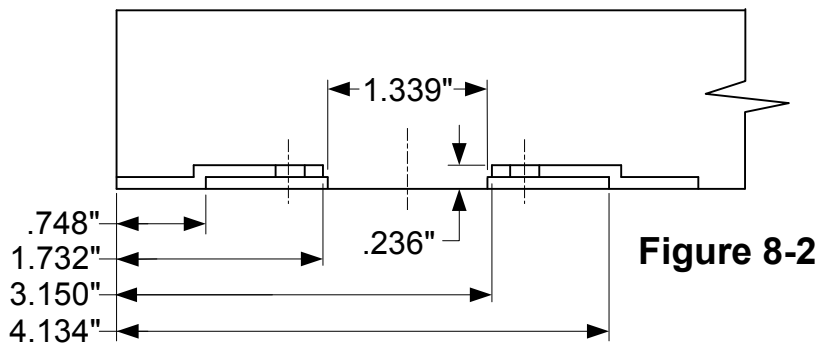

Figure 8-2
- b. Weld two 3mm thick mounting plates on the frame (figure 8-2).